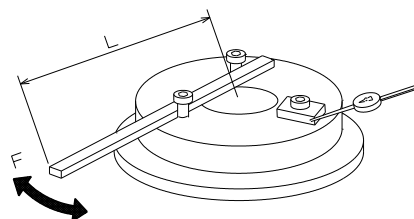

Fig.6
- 3) Perform the above measurement at 8 positions by rotating the table and compare them with the above adequate values. (See Fig.6)